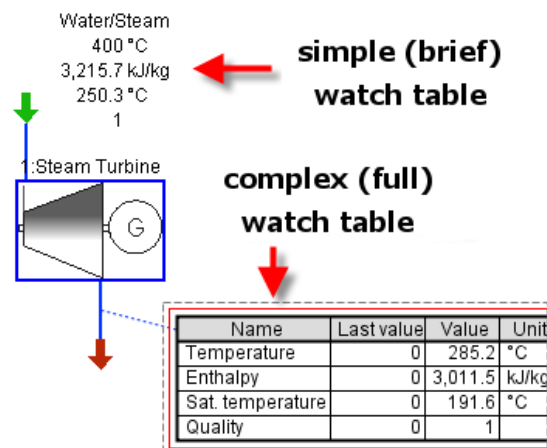

FIG. 13: Methods of results display in canvas
2. Property which is to be displayed is selected using *Add a field* item. Its value appears below flow name (Fig. 13). Removal is performed using *Remove a field* item.
3. *Brief* has to be unticked if more detailed and comprehensive table listing is required (Fig. 13).